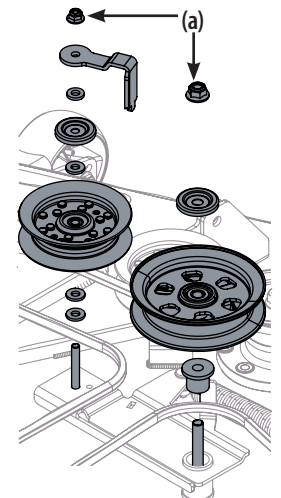

Figure 57
- Remove the two idler pulley assemblies by removing the flange lock nuts (a) at the top of the assemblies, then removing the assemblies from the idler arm. See Figure 57.